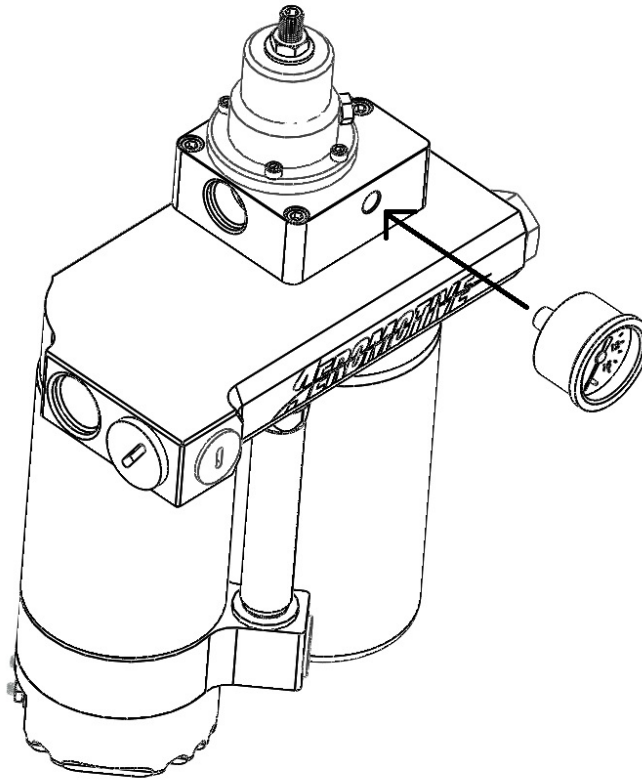

FIGURE 1-7
10. Attach the provided fuel pressure gauge to the gauge port on the pump. **FIGURE 1-7**